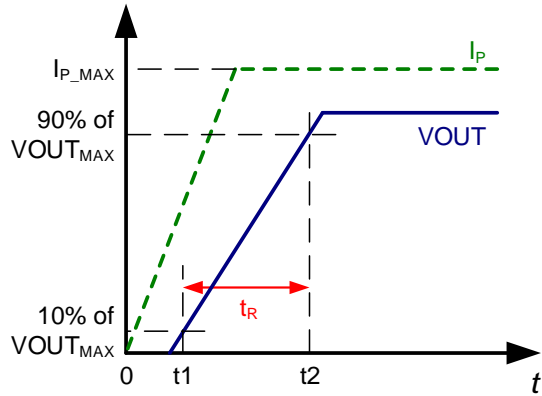

Figure 7: Rise Time (t_R)
- $t2$: The sensor's V_{OUT} reaches 90% of its full scale value (see Figure 7).